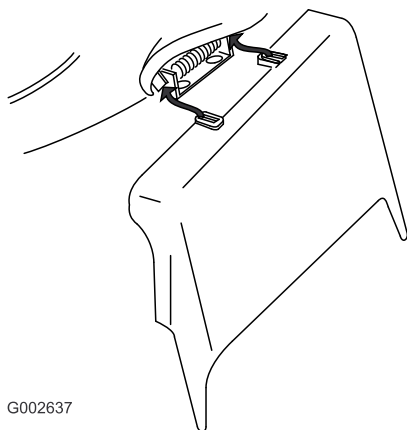

Figure 29
3. Install the side-discharge chute and close the door onto the chute (Figure 29).